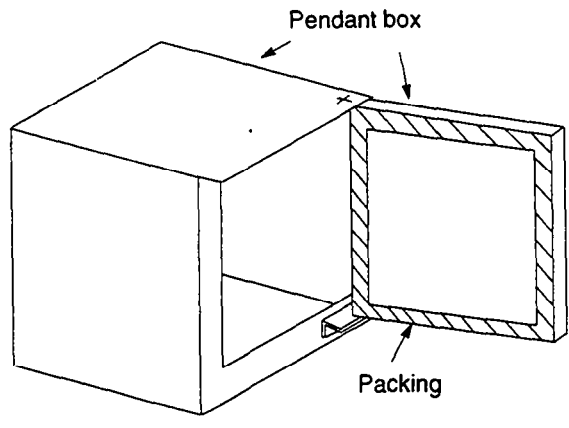

Fig.1.6 Door Packing
- Secure the rear door lid with packing material. (Refer to Fig.1.6.)